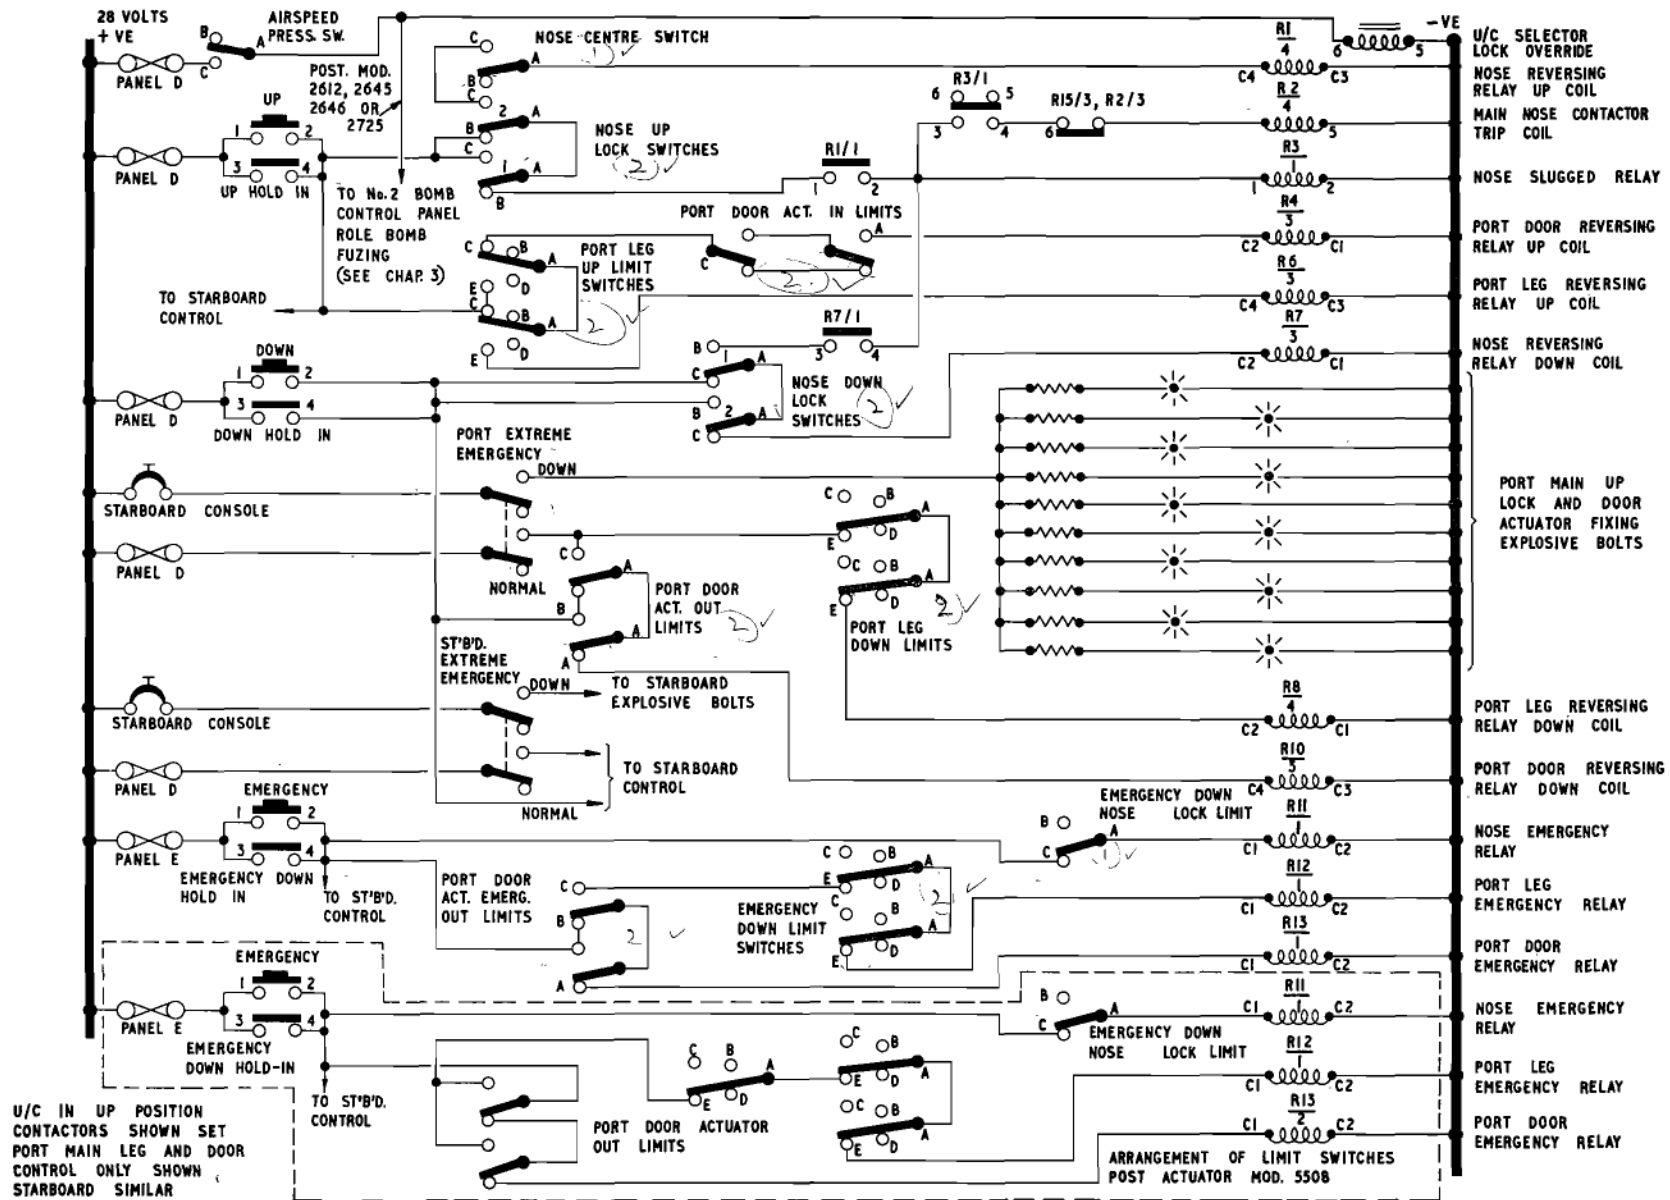
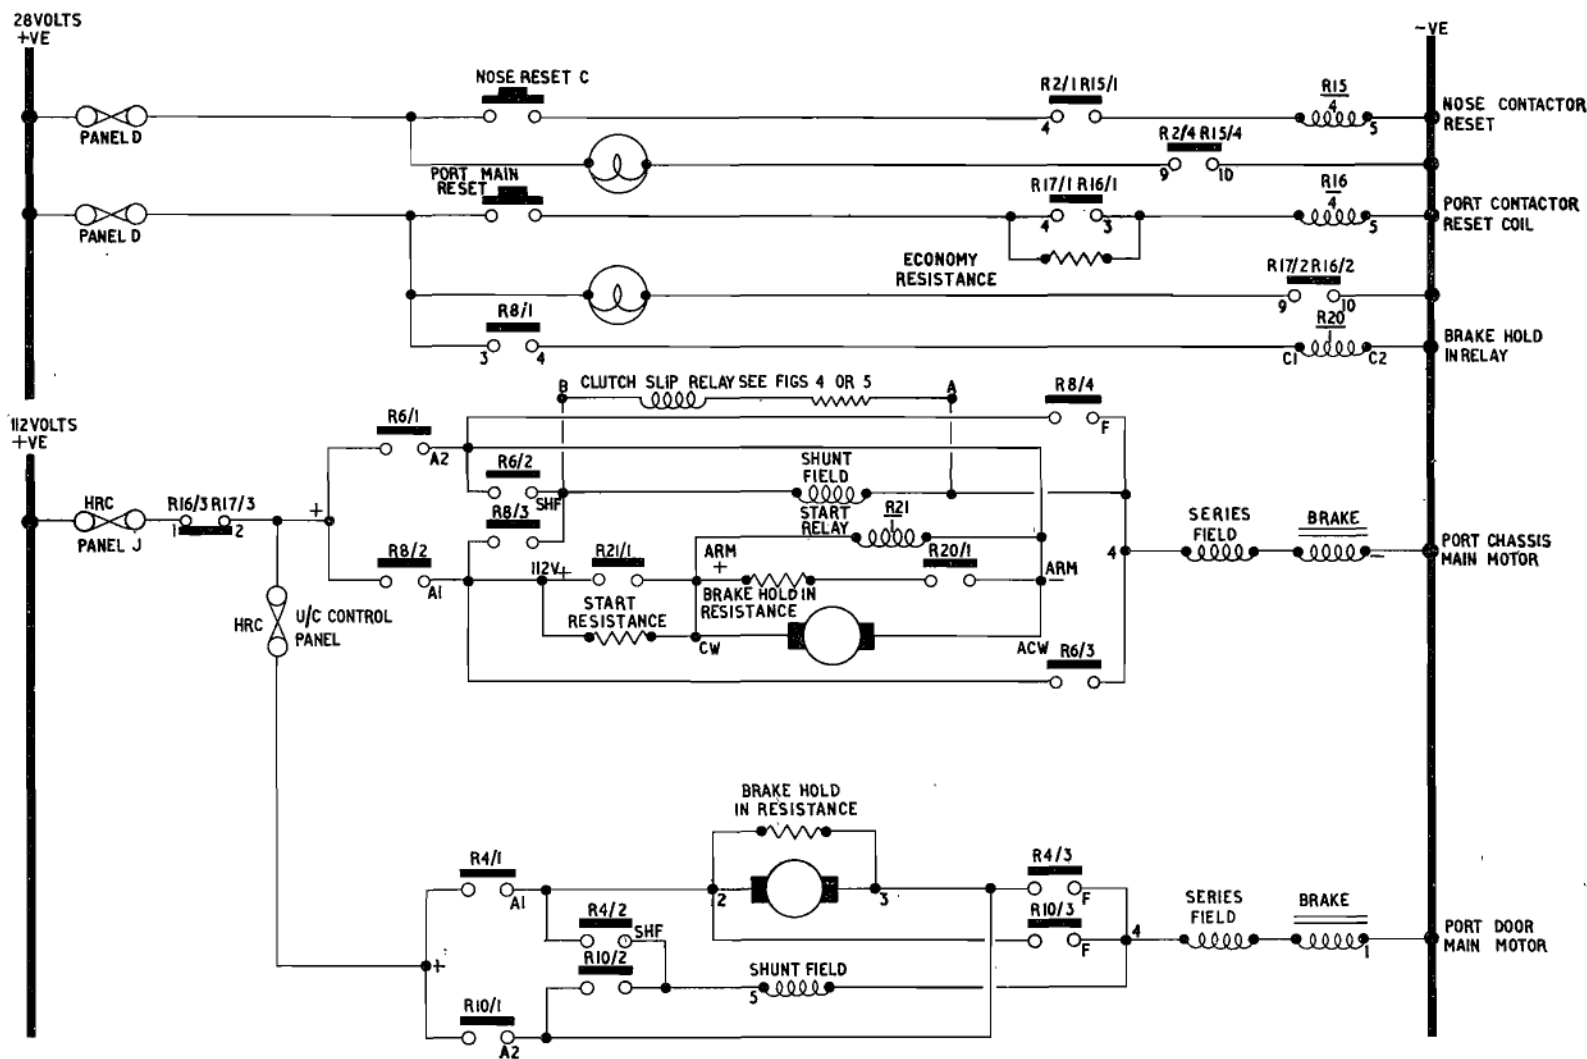
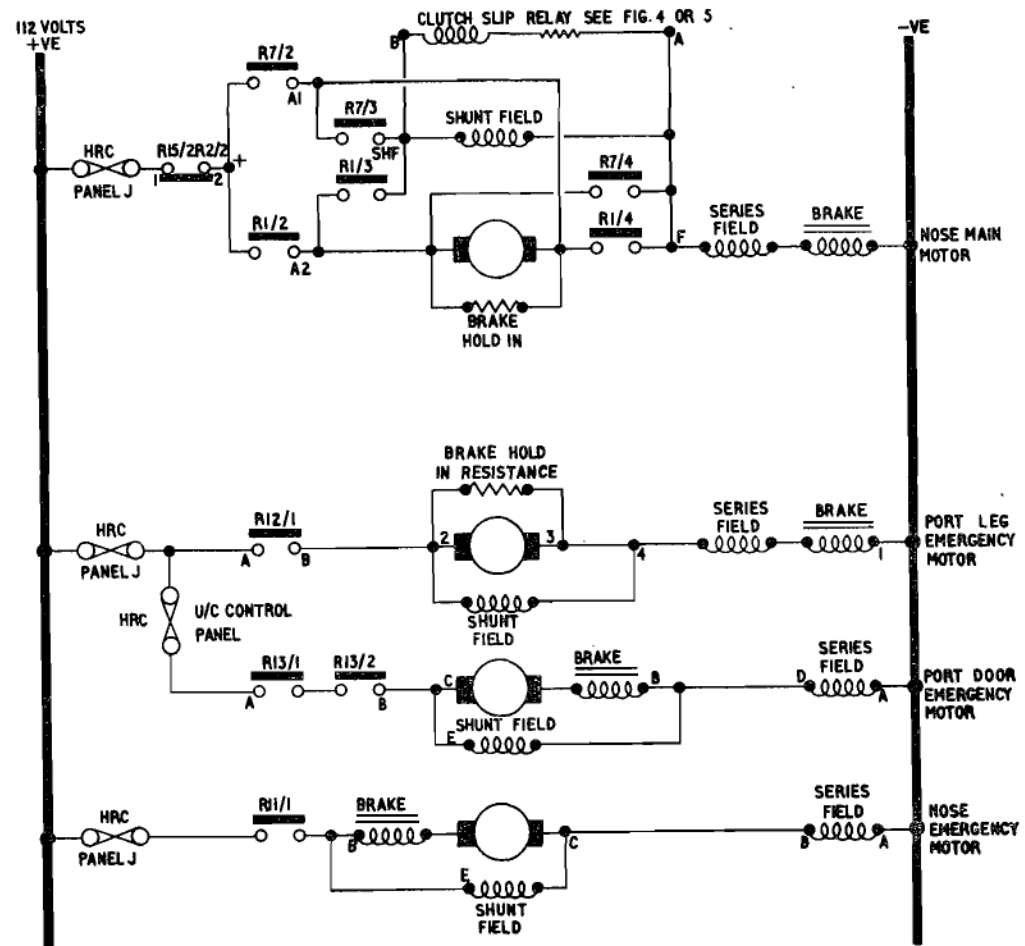

Fig. 1. Alighting gear control (1)
Fig. 2. Alighting gear control (2)
Fig. 3. Alighting gear control (3)
**CIRCUIT OPERATION****Normal down (fig. 1 to 3)**
6. Assume that the alighting gear is retracted. When the DOWN push-switch is depressed, a supply from the starboard fuse panel D is connected through the nosewheel down lock limit switches 1 and 2 to the 'down' coil of the nosewheel reversing relay R7, fig. 1, mounted in the nosewheel, in the nosewheel bay roof.
7. This supply is also connected through the port and starboard main wheel door actuator 'out' limit switches, to the 'down' coils of the port and starboard mainwheel door reversing relays, R10 (fig. 1), on their respective alighting gear control panels. The reversing relays operate; contacts R7/2-3-4 (fig. 3) operate to connect a 112-volt supply from panel J via R15/2, R2/2 of the nosewheel main contactor mounted in the nosewheel bay roof (pre-Mod. 786) or on power panel J (Post Mod. 786) to the nosewheel actuator main motor and its series connected brake solenoid.
8. The port and starboard door relays R10 operate contacts R10/1-2-3 (fig. 2) to connect 112-volt supplies from panel J via contacts R16/3 R17/3 of the port and starboard main contactors on their alighting
when the doors and nosewheel will be in their down positions. The actuator, door and nosewheel limit switches (fig. 1) will then be operated. The nosewheel uplock limit switches 1 and 2 set the circuit for raising the nosewheel; the nosewheel downlock limit switches 1 and 2 disconnect the supply to the reversing relay down coil R7, which, in turn, disconnects the 112-volt
**11.** The nosewheel downlock limit switches 1 and 2 also connect the supply to the operating coil of a slugged relay R3 (*fig. 1*). mounted in the nosewheel bay roof, via contacts R7/1 of the nosewheel reversing
relay, so that, if the reversing relay should weld in, the slugged relay would become energized from the original supply. After a delay of about  $\frac{1}{2}$  sec. the slugged relay would connect (R3/1) the same supply to the trip coil R2 of the nosewheel main contactor, thus disconnecting (R2/2) (*fig. 3*) the 112-volt supply to the nosewheel motor.
**12.** The door actuator in limit switches set the circuit for raising the doors. The door actuator out limit switches disconnect the supply to the door reversing relays R10 (*fig. 1*), which in turn, disconnect (R10/1-3) (*fig. 2*) the 112-volt supplies to the door
motors and apply the brakes. The door actuator out limit switches (fig. 1) also connect the supply, from the down push-switch, through the mainwheel down lock limit switches to the 'down' coils of the port and starboard motor reversing relays R8, mounted on their respective alighting gear control panels.
13. When the mainwheel reversing relays operate (fig. 2), the 112-volt supplies, which supplied the door motors, are connected (R8/2-4) to the main wheel actuator main motors. They also connect (R8/1) a supply, from panel D, to the operating coil of the brake hold in relay R20, in the starter relay box. This operates (R20/1) to connect the brake hold-in resistance across the motor armature. The motors start to operate, their brakes being released simultaneously with the motors starting. The motors have starting resistances controlled by relays across the armatures.
14. As the motors accelerate, their armature back e.m.f.'s increase, which on reaching 75 volts, energize the coils of the starting relays R21 (fig. 2). The starting relays operate (R21/1) to short-circuit the starting resistances in the armature circuits, so allowing the motors to run on full voltage. The weight of the undercarriage reduces the load on the motors and eventually drives the motors at above their normal speed thus producing a reverse current which is dissipated in the brake hold-in resistance. Thus a form of rheostatic braking is applied to the motors to control the 'free fall' speed of the main undercarriages.
will operate (fig. 1) to disconnect the supply to the mainwheel motor reversing relays R8, which in turn, disconnect the 112-volt supplies to the motors and brakes. The motors will then stop and the brakes will be applied. The alighting gear is now in the down position.
16. When the UP push-switch is depressed (fig. 1) a supply from the starboard fuse
17. The nosewheel relay connects (R1/2-3 (fig. 3) a 112-volt supply from the nosewheel main contactor to the nosewheel actuator main motor and its series connected brake solenoid. The mainwheel relays (R6/1-3) (fig. 2) connect 112-volt supplies from the mainwheel main contactors to the mainwheel actuator main motors and their series-connected brake solenoids. The mainwheel motors have starting resistances in series with their armatures. These resistances are controlled by relays, whose coils are across the armatures so that when the armature back e.m.f.'s reach 75 volts due to increasing speeds of the motors, the relays are energized and the starting resistances are short-circuited. The motors on the actuators will now start, their brakes being released simultaneously with the motors starting.
18. The actuators will continue to operate until the limits of their travel are reached when the main and nose undercarriages will be fully retracted. The nose and main limit switches will be operated. The nosewheel downlock limit switches 1 and 2 (fig. 1) set the circuit for lowering the undercarriage and the uplock limit switches 1 and 2 disconnect the supply to the nosewheel reversing relay 'up' coil R1, thus disconnecting (R1/2-3) the motor from its supply and applying the brake.
19. The nosewheel uplock limit switches 1 and 2 (fig. 1) also connect the circuits to the slugged relay R3, via contacts R1/1 of the nosewheel reversing relay so that, if the reversing relay should weld in, the slugged relay would operate (R3/1), after about ½ sec., to energize the trip coil of the nosewheel main contactor R2 and so trip the 112-volt supply to the motor.
20. The mainwheel down limit switches (fig. 1) set the circuit for lowering the undercarriages and the up limit switches disconnect the supply from the motor reversing relays R6. These in turn disconnect (R6/1-3) (fig. 2) the motors from their 112-volt supplies and apply the brakes. The mainwheel up limit switches (fig. 1) connect the
21. These reversing relays operate (R4/1-3) (fig. 2) to connect the 112-volt supply from the mainwheel main contactors (R16/3, R17/3) via the fuses to the mainwheel door actuator main motors and their series
connected brakes. The actuators operate to raise the doors until the limits of their travel are reached, when the door actuator limit switches will operate. The door 'actuator in' limit switches (fig. 1) disconnect the supplies to the door reversing relays R4, which in turn disconnect (R4/1-3) the 112-volt supplies to the motors and apply the brakes. The door actuator out limit switches set the circuits to lower the doors.
TO BE READ IN CONJUNCTION WITH FIGS. 2 AND 3.
**33.** The emergency circuit can only be used to lower the alighting gear. When the EMERGENCY push-switch is depressed (fig. 1) a supply from the port fuse panel E is connected through the emergency down nosewheel uplock limit switches to the operating coil of the nosewheel emergency relay R11 which is mounted in the nose-wheel bay roof. The supply is also connected through the port and starboard mainwheel door actuator emergency out limit switches, to the operating coils of the mainwheel door emergency relays, R13, mounted on their respective alighting gear control panels.
**34.** The emergency relays operate (R11/1, R13/1) (fig. 3) to connect 112-volt supplies from panel J to the nosewheel and mainwheel door emergency motors and their series connected brake solenoids. The supplies to the mainwheel door emergency motors are fused branches of the supplies to the mainwheel emergency motors, the fuses being mounted on the alighting gear control panels. The motors will now start to lower the nosewheel and the mainwheel doors. The brakes are released simultaneously with the motors starting. The motors will continue to operate until the actuators reach the limits of their travel, when the nosewheel and mainwheel doors will be in the down position, and the limit switches will be operated.
35. The normal limit switches will be operated as for normal conditions. The nosewheel emergency down uplock limit switch (*fig. 1*) disconnects the supply to the nosewheel emergency relay R11, which, in turn, disconnects (R11/1) (*fig. 3*) the 112-volt supply to the nosewheel emergency motor and applies the brake.
36. The mainwheel door actuator emergency out limit switches (*fig. 1*) disconnect the supply to the door emergency relays R13, which, in turn, disconnect (R13/1) (*fig. 3*) the 112-volt supply to the door emergency motors and apply the brakes. At the same time, the door actuator emergency out limit switches (*fig. 1*) connect the supply, from the downlock emergency limit switches, to the operating coils of the mainwheel emergency relays R12, mounted on their respective alighting gear control panels.
37. These relays operate to connect (R12/1) (*fig. 3*) 112-volt supplies from panel J to the mainwheel actuator emergency motors and their series connected brake solenoids. The motors start to lower the main undercarriages, the brakes being released simultaneously with the motors starting. Resistances across the motor armatures ensure that the brake solenoids remain energized when the weight of the falling undercarriage reduces the armature current to below the hold-in value for the brake.
38. When the actuators reach the limits of their travel, the main undercarriage will be in the down position and the limit switches will be operated. The normal limit switches will be operated as described for normal operation. The mainwheel downlock emergency limit switches (*fig. 1*) will disconnect the supply to the mainwheel emergency relays R12, which, in turn, disconnect (R12/1) (*fig. 3*) the 112-volt supply to the
40. When an EXTREME EMERGENCY switch is placed in its DOWN position, a supply from the feed side of a fuse on the starboard fuse panel D, via a circuit breaker (*fig. 1*) mounted on the rear face of the starboard console, is connected to the mainwheel door actuator to the door. There is a resistance in series with each bolt so that the current is limited in the event of a bolt welding in. *(Continued overleaf)*